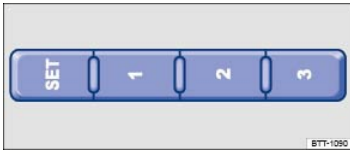

Fig. 89 On the outer side of the driver seat: Memory buttons.
- Press the **SET** button for longer than 1 second ⇒ Fig. 89.